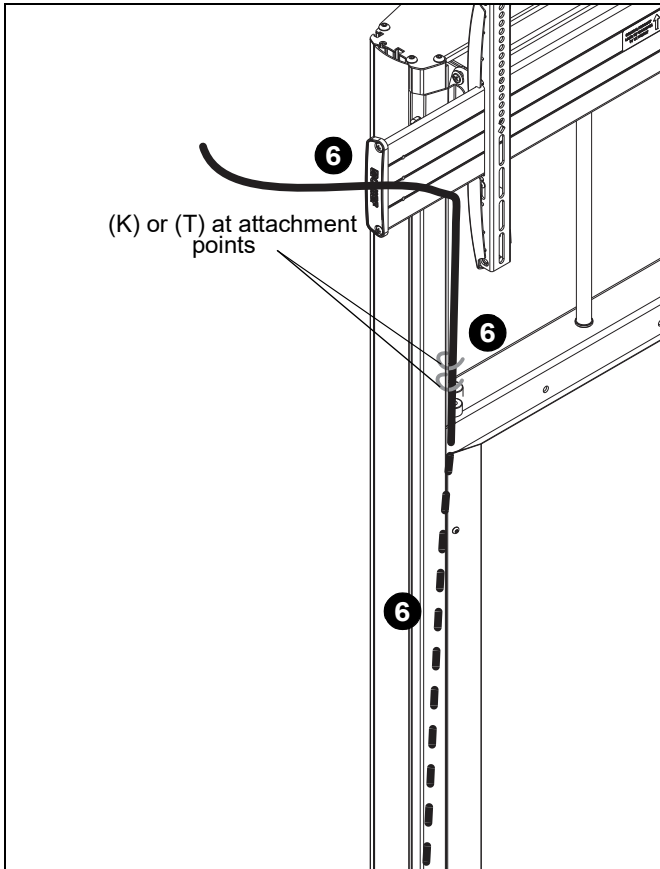

Figure 21
- Route cables from display through inside of column assembly attaching at cable management attachment points and/or accessory bracket using cable ties (K) or cable clips (T) as desired. (See Figure 21)
WARNING: Do not attempt to raise or lower the adjustment carriage beyond its upper or lower limit. High and low points are shown in Figures 21 and 22.